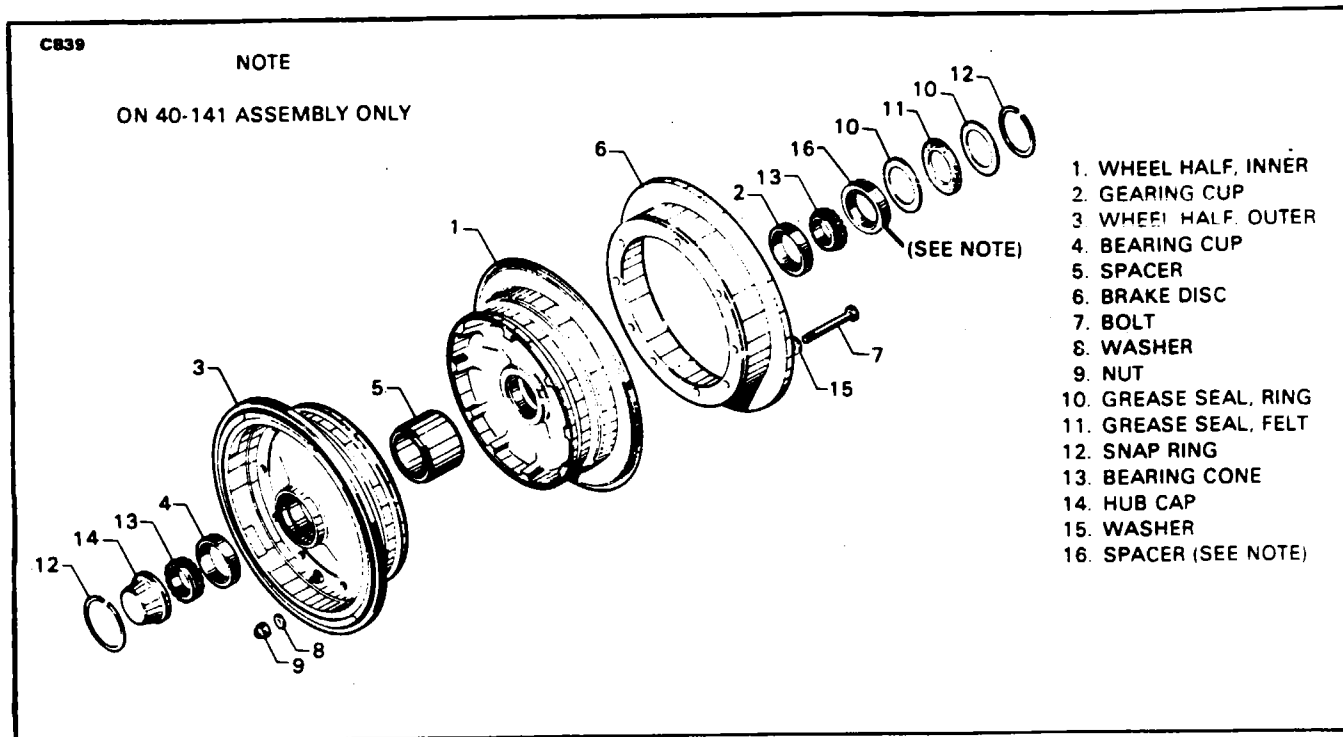

Figure 32-14. Main Wheel Assembly (Cleveland 40-130 and 40-141)
REMOVAL AND DISASSEMBLY OF MAIN WHEEL. (Refer to Figure 32-14.)
ASSEMBLY AND INSTALLATION OF MAIN WHEEL. (Refer to Figure 32-14.)
3. Place outer wheel half into tire and pull tube valve stem through valve hole. Turn tire and outer wheel half over and place the spacer (refer to Figure 32-14) and inner wheel half into position and align the bolt holes with the outer wheel half and the brake disc. Install bolts through the brake disc and inner wheel half and washers and nuts on the outer wheel half. Torque wheel nuts per recommended torque value on name plate of wheel.